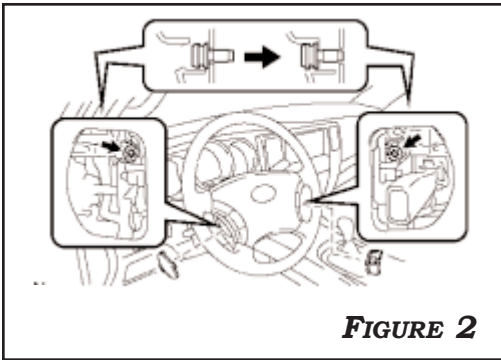

FIGURE 2
2. REMOVE AIRBAG BY RELEASING SIDE PANELS FROM STEERING WHEEL AND EXTRACTING THE TWO 30 TORX SCREWS AS ILLUSTRATED IN **FIGURE 2**.